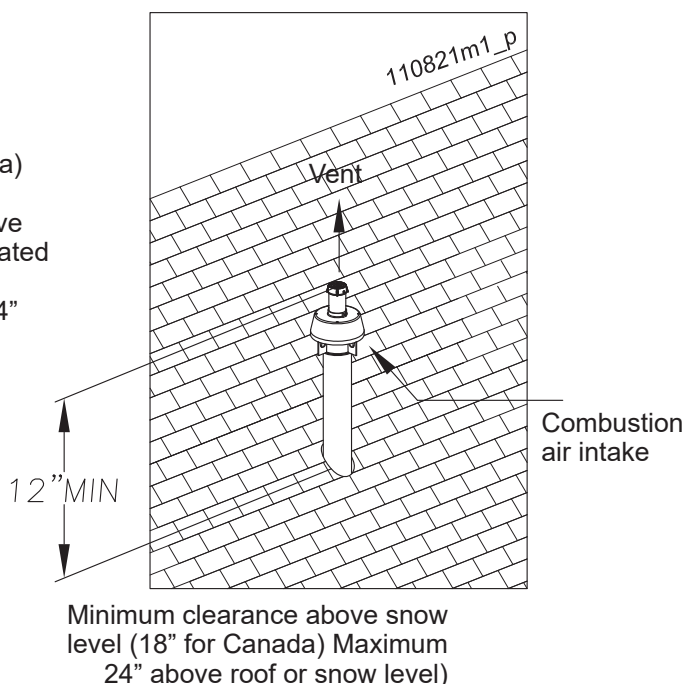

Figure 11-26 - Concentric vertical terminations
- 1.- Determine the best location for the termination kit (see Figure 11-26);
- 4.- Cut one (1) hole into the structure to install the termination kit;